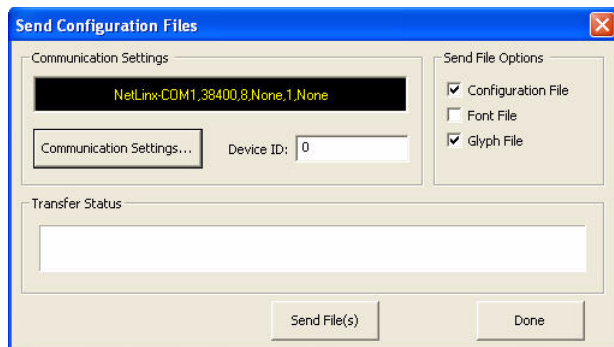

FIG. 47 Send Configuration Files dialog
- For Keypad and Remote Projects, this launches the *Send Configuration Files* dialog (FIG. 47).